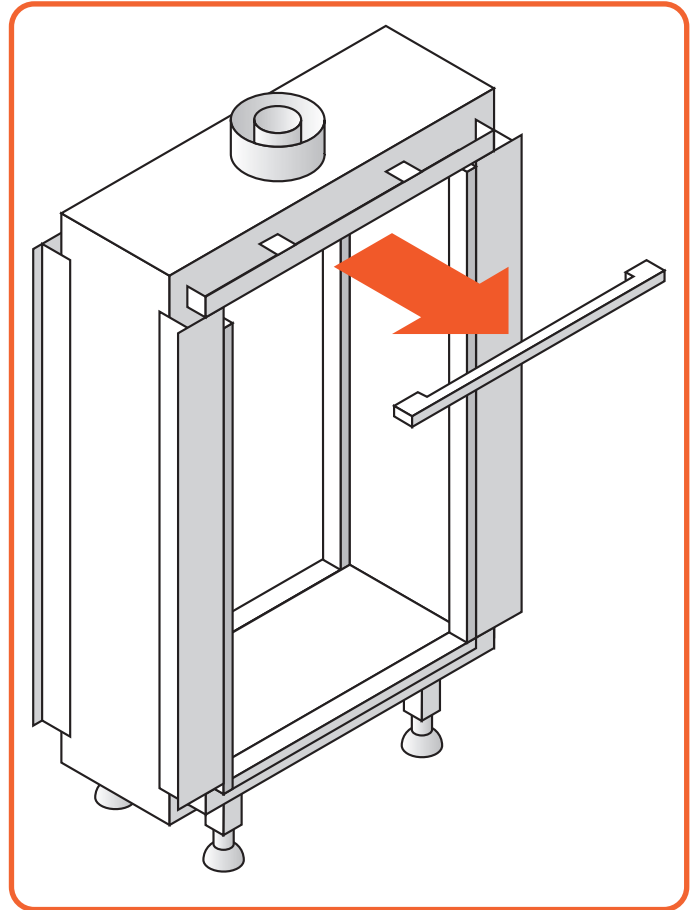

Figure 11.3 | Remove upper trim
- Remove the upper trim, see Figure 11.3